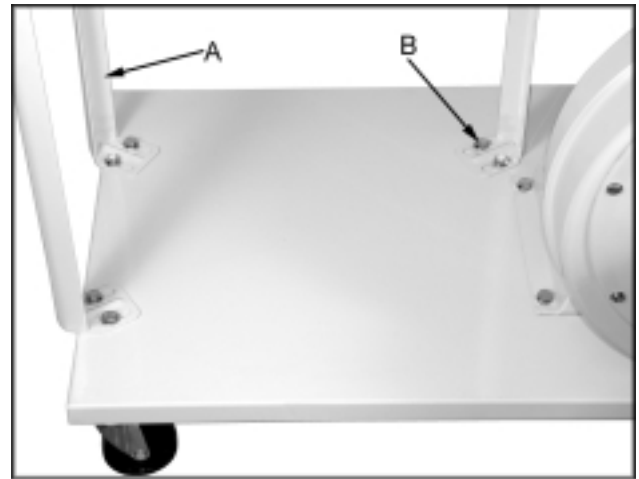

Fig. 4
4. Attach *three* support brackets (A, Fig. 4) to the base using *six* M8 x 16 hex cap bolts and *six* M8 flat washers (B, Fig. 4). Hand tighten only at this time.